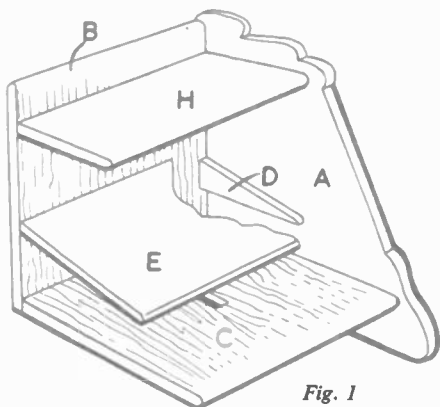

Fig. 1
Fig. 1 which is a cutaway view of the box, shows how the main parts are put together. In the back (B) it will be noted